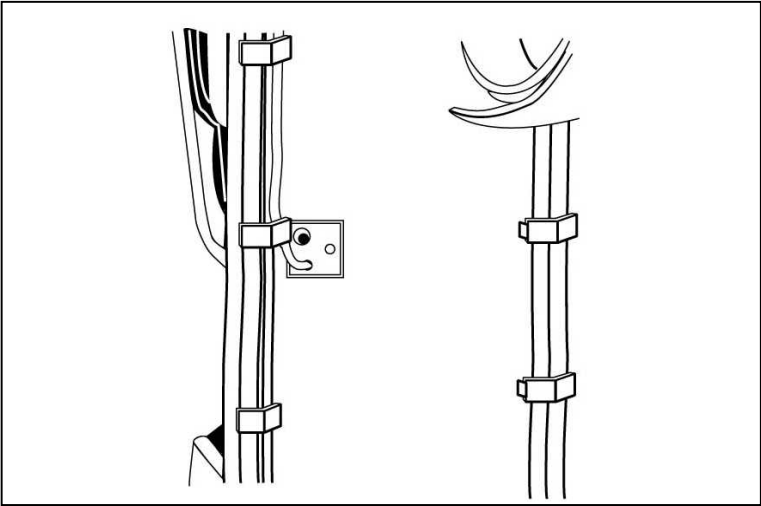

Figure 4-4-2: Loader's Ready Light
12. **Loader's Ready Light** (Figure 4-4-2). The loader's ready light is mounted to the rear of the gunner's seat, so that it is easily visible to the loader when the turret is in the load position. The loader's ready light illuminates automatically when the turret is in the load position (correct azimuth and maximum elevation). This indicates to the loader that the turret is in the load position and the loader's hatch may be opened.